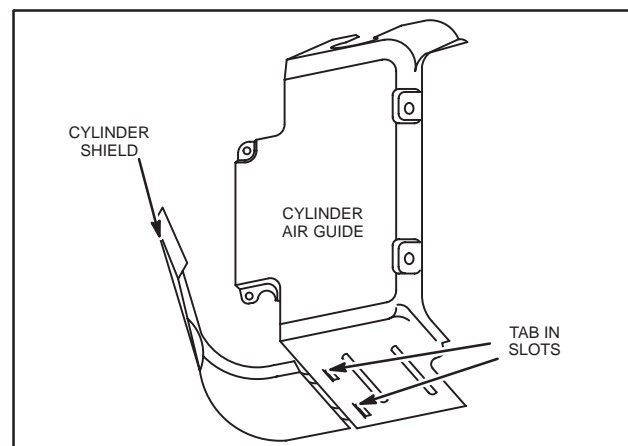

Fig. 18 – Assemble Shields and Air Guides
1. Assemble cylinder shield locating tabs in slots of cylinder air guide, Fig. 18.